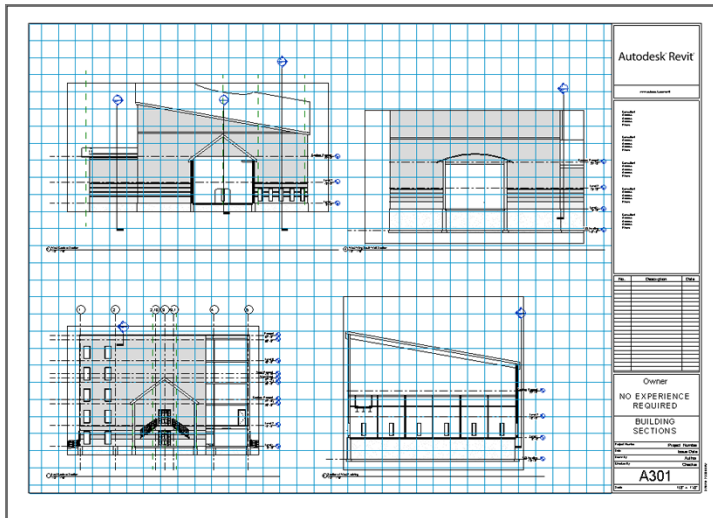

FIGURE 14.9: The completed sheet A301
If you feel as though you have enough experience creating a sheet and adding views, go ahead and proceed on your own. Your new sheet will be numbered A301 and will be called Building Sections, and you'll add the views East Corridor Section, West Corridor Section, Section at West Training, and West Wing South Wall Section. Your sheet should look like Figure 14.9.
11. Drag the section called West Wing South Wall Section to the right of West Corridor Section and directly above Section At West Training. The alignment lines allow you to place the section accurately. After you have these four sections in place, your sheet A301 should look like Figure 14.9.